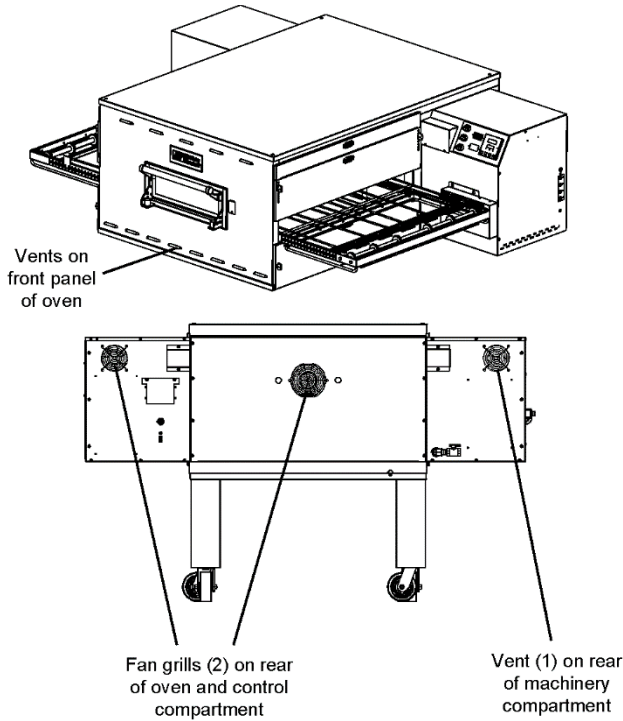

Figure 25. Cooling Vents and Grills
2. Clean ALL of the cooling fan grills and vent openings with a stiff nylon brush. Refer to Figure 25 for the locations of the grills and vents.